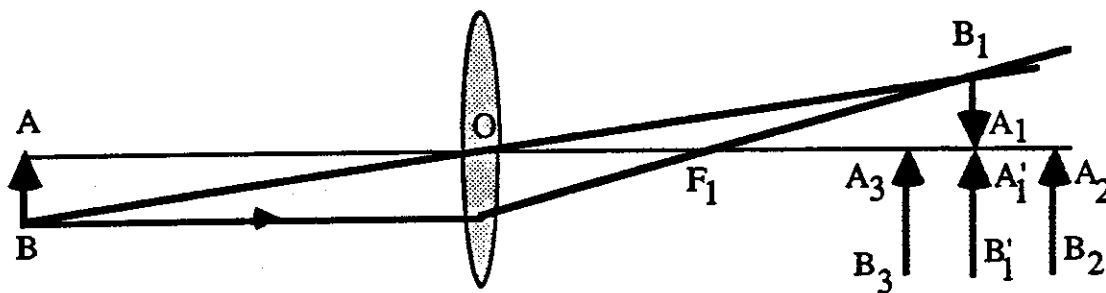

Fig. 13-6
The method of no parallax is adopted to locate the position of images. Parallax is the relative motion observed between two objects (or between an object and an image) which are not situated at the same point, due to the motion of the observer. For example, consider the image A_1 (Fig. 13-6). If the image pin is placed at A_2' (or A_3'), points A_1 and A_2' (or A_1 and A_3') will appear to move relative to each other when the observer moves sideways. Thus parallax will be observed between A_1 and A_2' (and, A_1 and A_3'). However, if the tip of the image pin is at A_1' (coinciding with A_1), there no parallax will be observed between A_1 and A_1' .
In Fig. 13-6, AB is an object whose image is A_1B_1 . Thus points A and A_1 are the conjugate foci. Further, in Fig. 13-6, the image A_1B_1 is real. Thus the method of no parallax can be employed for determining the object distance (p) and the image distance (q). Then the focal length f can be calculated from Eq. (1). Alternatively, a well-defined image of a source of light (placed at AB) can be obtained on a ground glass screen (placed at $A_1'B_1'$). Thus the object and image distances can be measured.